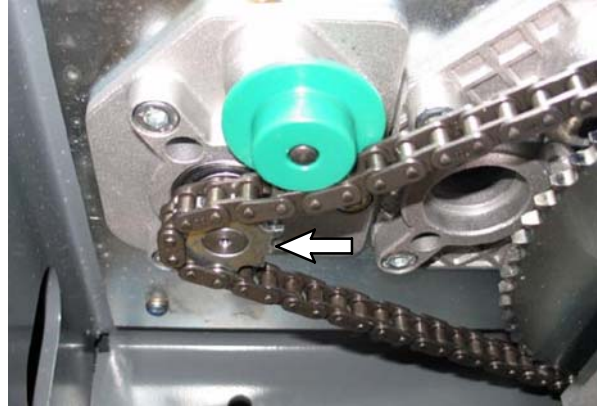
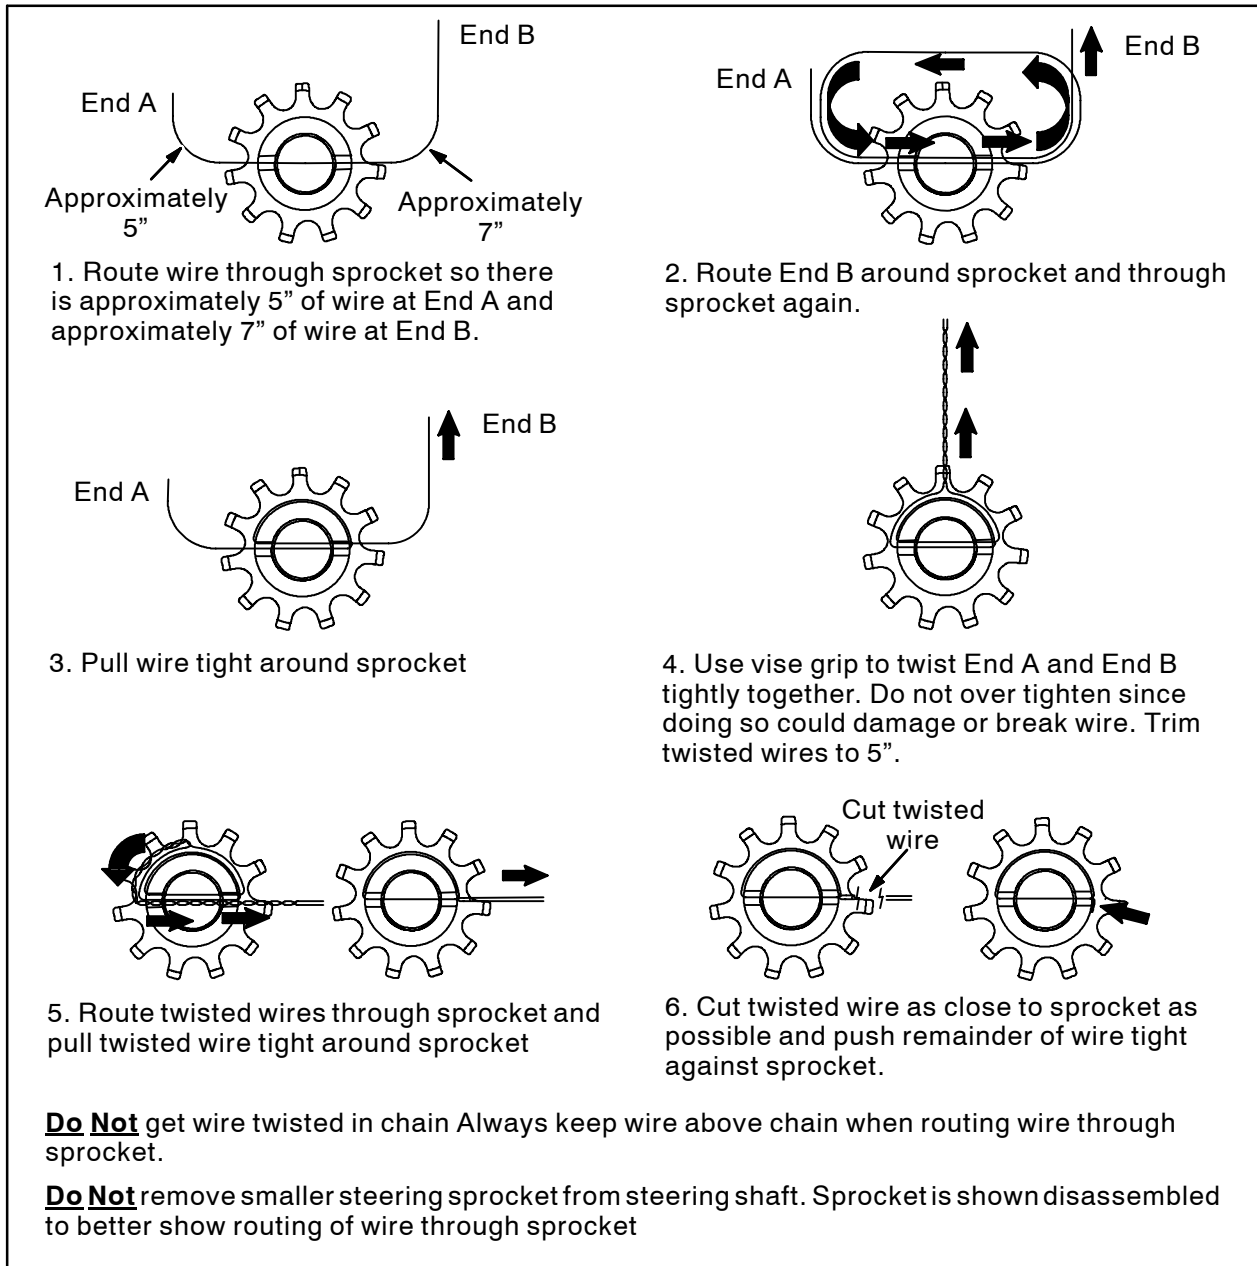

FIG. 5
FIG. 6
2. Position the wire in the small steering sprocket. Refer to Fig. 5 for the location of the sprocket and Fig. 6 for installing the wire into the sprocket.